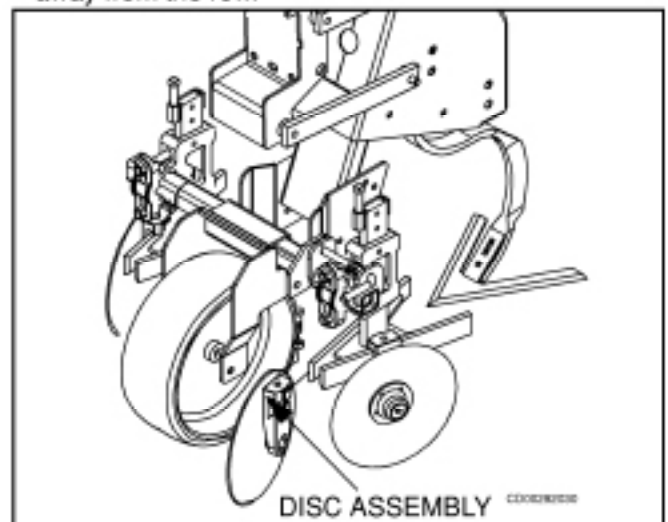

Figure 50 Fastening Disc Assembly
1. Slide dual disc assemblies over the rail on the shank weldment as shown in Figure 50.